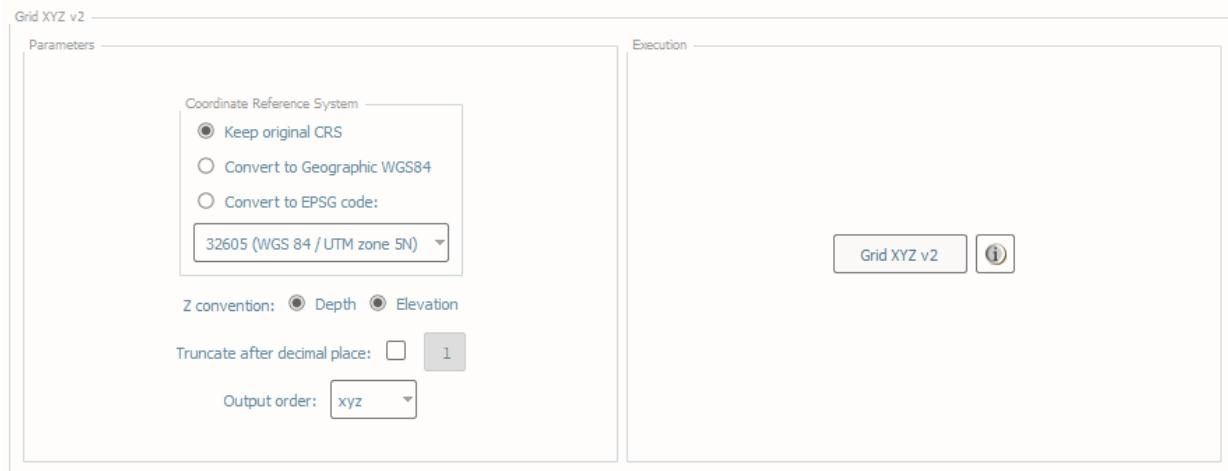

Fig. 2.57: Grid XYZ's interface.
- In **Execution** (Fig. 2.57), click **Grid XYZ v2**.